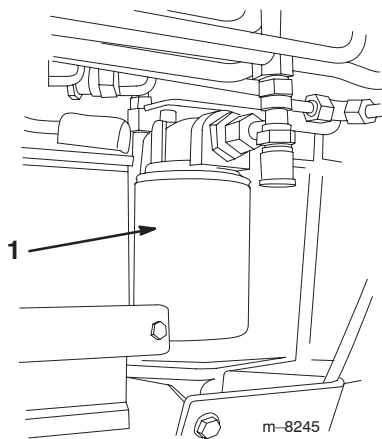

Figure 47
4. Place a drain pan under the filter (Fig. 47).
5. Remove the old filter (Fig. 47) and wipe the surface of the filter adapter gasket clean.
7. Install the replacement hydraulic filter onto the filter adapter (Fig. 47). Tighten it clockwise until the rubber gasket contacts the filter adapter, then tighten the filter an additional 3/4 turn.